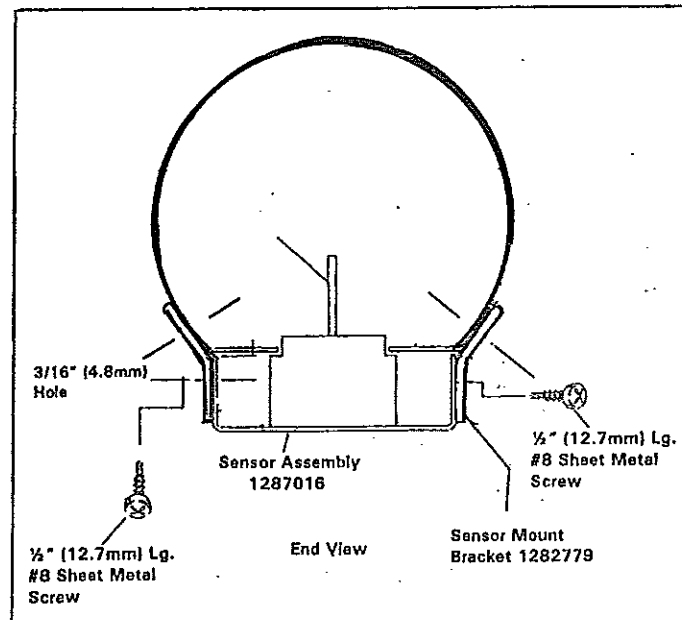

Figure 28 Sensor and Sensor Mounting Brackets
2. There is a Cover Plate over the rectangular cutout in the auger tube for the Sensor. Remove the (4) #8 sheet screws and cover plate.
4. Attach the (2) Sensor Mount Brackets #1282779 to the sides of the Sensor using (4) #8 sheet screws. Place Sensor into the cutout and attach the sensor mount brackets to the discharge auger tube with #8 sheet screws. See Figure 28.